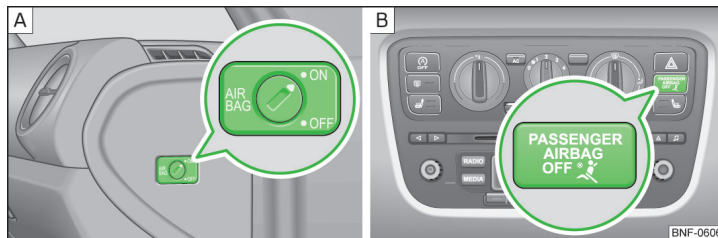

Fig. 10 Key-operated switch for the front passenger airbag / warning light for front passenger airbag
- > The warning light **PASSENGER AIRBAG OFF**  » Fig. 10 on page 18 -  illuminates after the ignition has been switched on.
- Use the key to turn the slot of the key switch carefully into the position **OFF** » Fig. 10 - .
- Check that the warning light **PASSENGER AIRBAG OFF**  » Fig. 10 -  illuminates after the ignition is switched on.
- Use the key to turn the slot of the key switch carefully into the position **ON** » Fig. 10 - .
- Check that the warning light **PASSENGER AIRBAG OFF**  » Fig. 10 -  does not illuminate after the ignition is switched on.